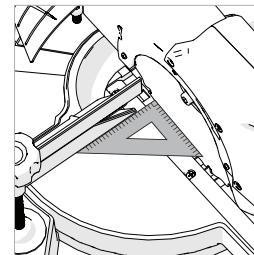

Fig. 19
- Ensure that the Cutting Head is in the locked down position with the latching pin fully engaged in its socket. (**see Fig. 19**)
- Place a Set Square on the table with one short edge against the Fence and the other short edge against the Blade (avoiding the TCT tips). (**Fig. 19**)